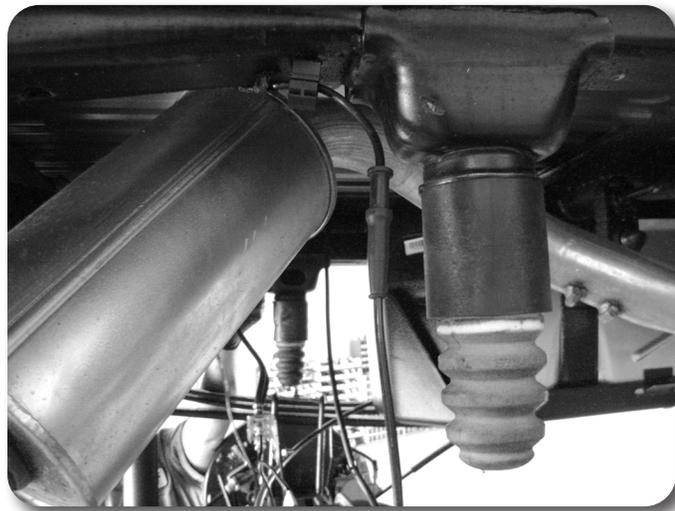

Figure 27
- Remove the rear rubber bump stops from the frame. Access the bolt head up through the center of bump stop using a 10mm socket. Remove the bump stop and install the provided 3" diameter x 3" tall spacer between the bump stop and the frame mount with a 10mm x 110mm allen head bolt (Loctite threads). Center the spacer on the lip of the factory bump stop cup and torque bolt to 35 ft-lbs **Figure 27**.